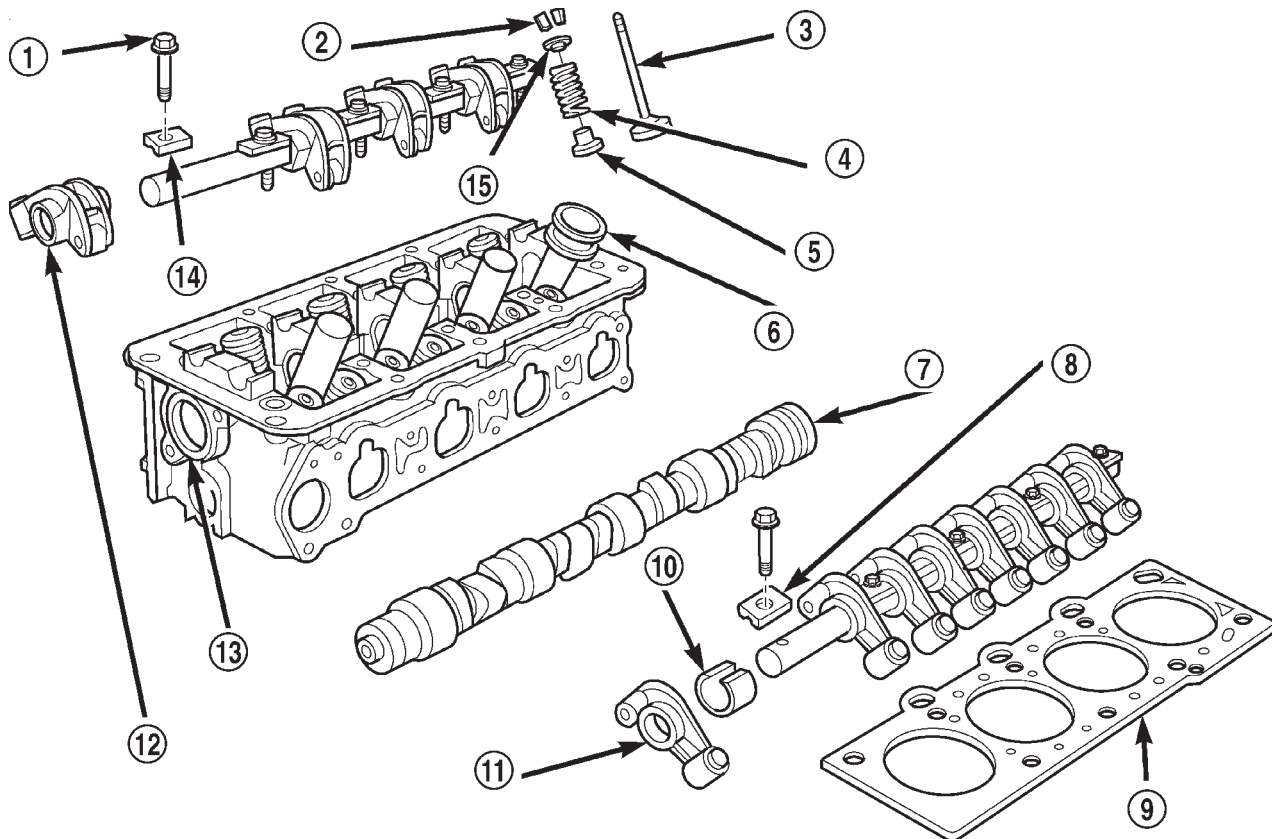

Fig. 55 Cylinder Head Assembly
(26) Remove ground wire to cylinder head.
(27) Remove upper radiator hose.
(28) Remove intake manifold. Refer to procedure in this section.
(29) Disconnect ignition coil electrical connector. Remove coil pack and spark plug cables from engine.
(30) Remove Crankcase Closed Ventilation (CCV) hose from cylinder head cover.
(31) Disconnect cam sensor and coolant temperature electrical connectors.
(32) Remove heater tube to cylinder head attaching fasteners.
(33) Remove heater hose from thermostat housing connector.
(34) Remove cylinder head cover.
(35) Remove cylinder head bolts.
(36) Remove cylinder head and gasket (Fig. 55).